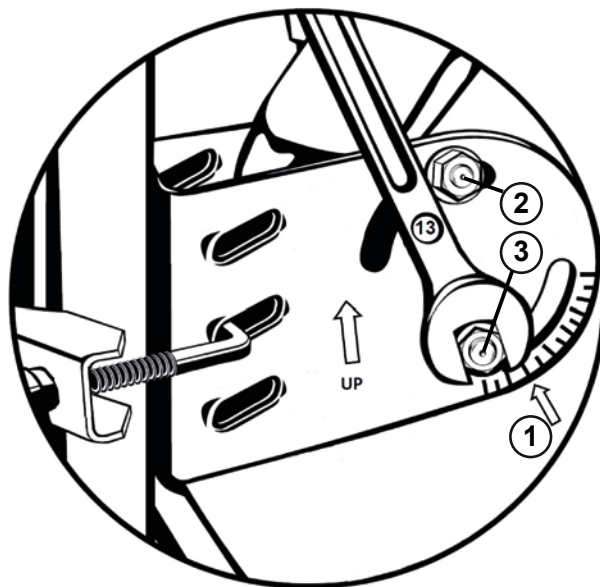

Fig. 7: Setting the inclination (elevation)
1. When adjusting the inclination (elevation), observe the scaling on the right side of the mast fixing, as seen from behind (arrow ① in Fig. 7).
2. Loosen both screws on each side of the mast fixing to modify the elevation of the antenna (②, ③ in Fig. 7).